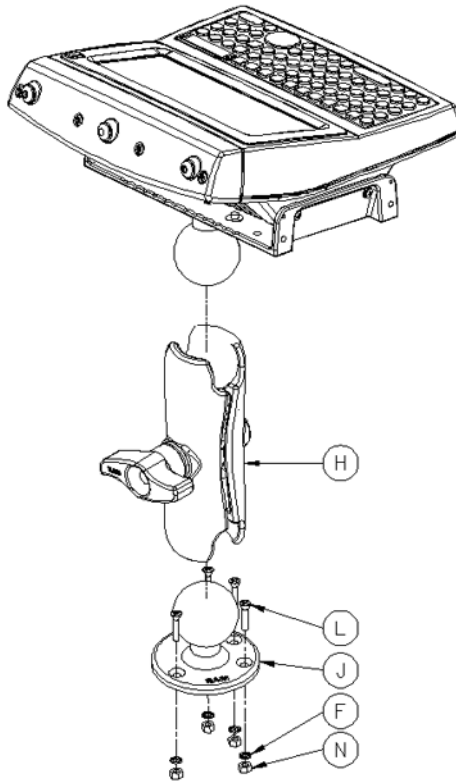

Figure 6.8 RAM Circular Base
- If you are assembling with RAM Circular Base, see Figure 6.8 on page 175.